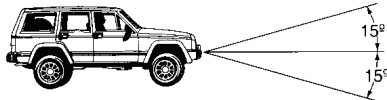

Figure 5
1. 15° angle up or down from horizontal. (See Figure 5).